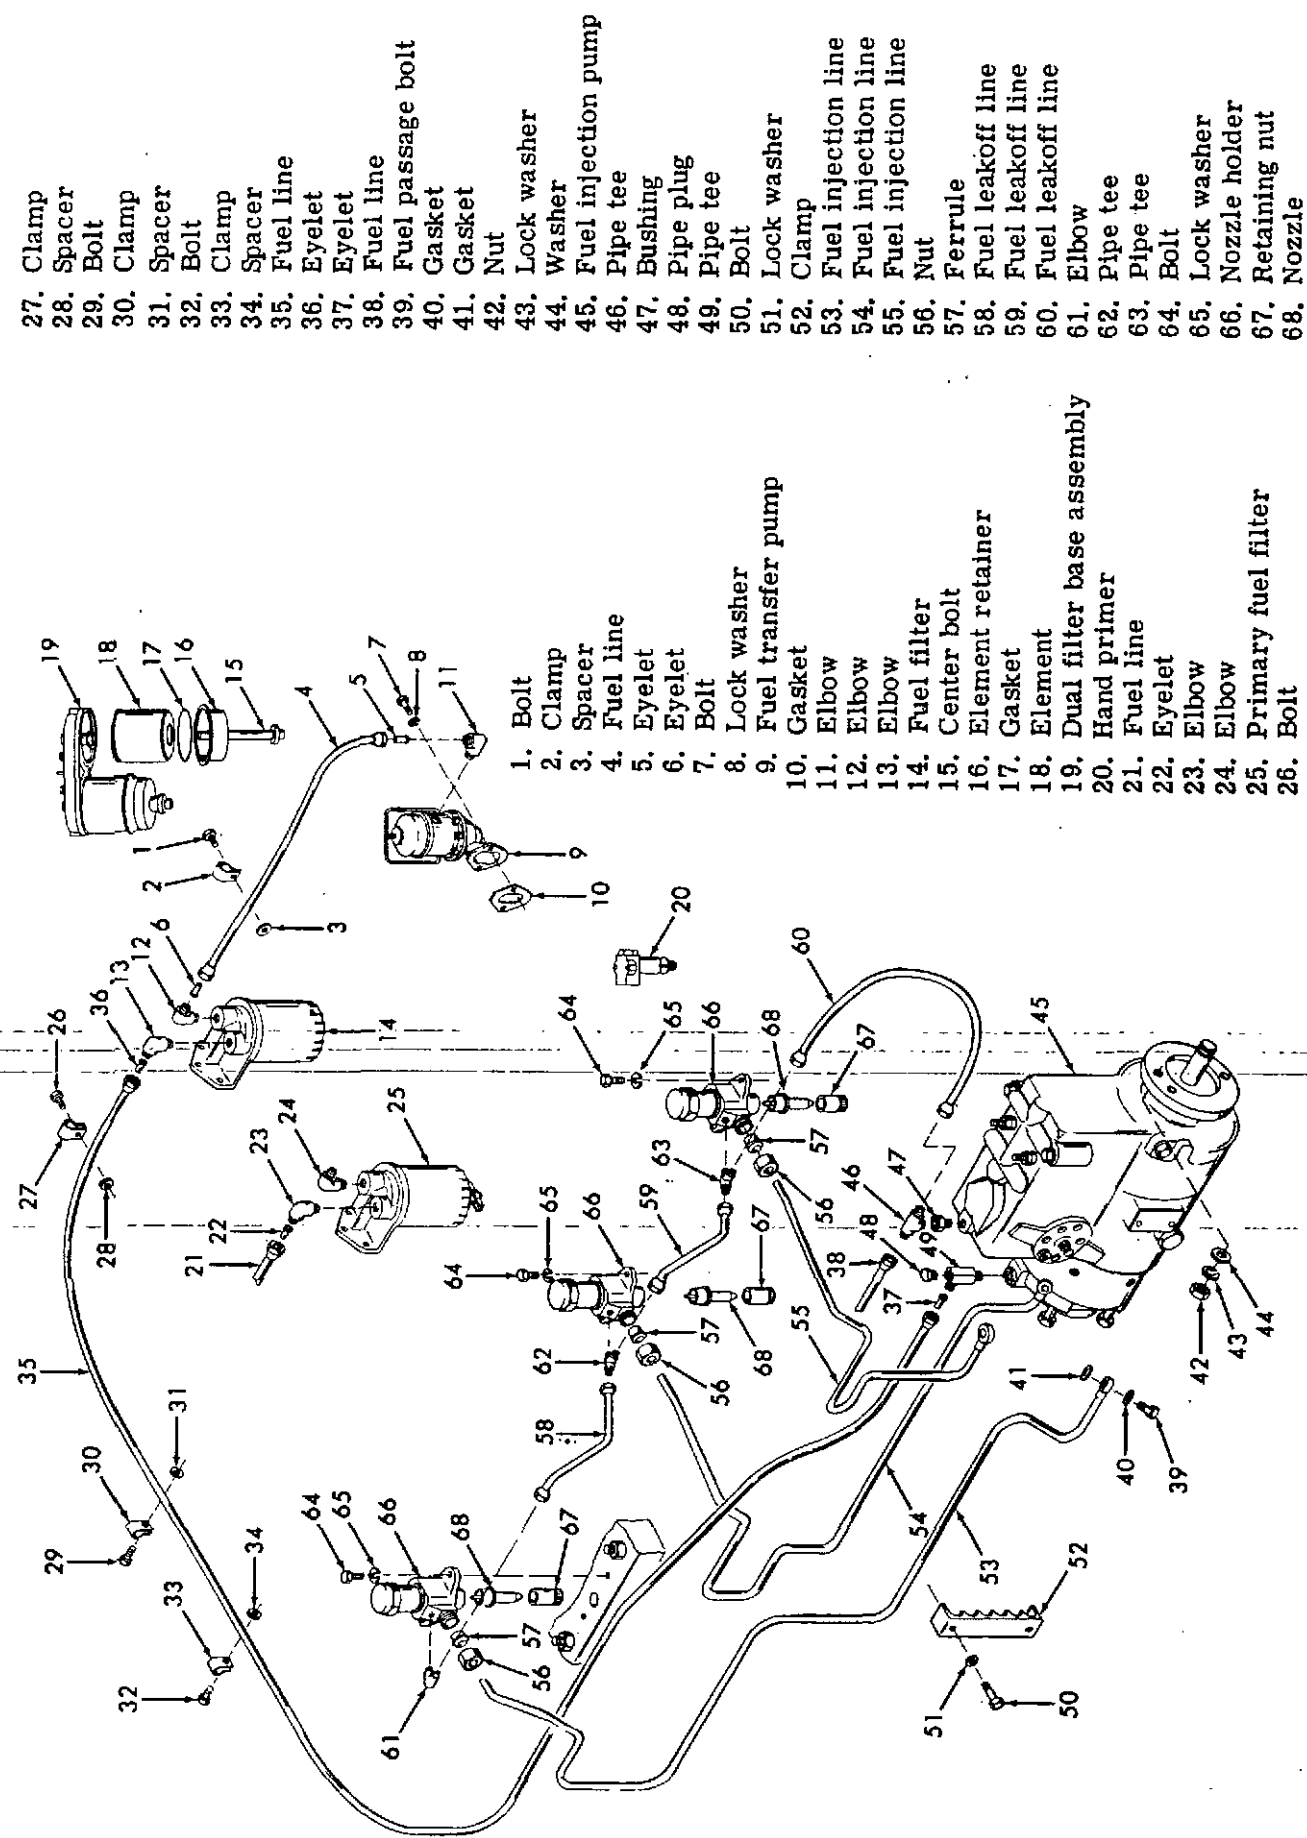

Figure 5-11. Fuel System, Exploded View
- (b) Disconnect and remove the fuel lines from the fuel tank at the pump. Be careful not to lose eyelets (5 and 6, figure 5-11) from fuel lines.
- (c) Remove the fuel transfer pump (9) and gasket (10) from cylinder block by removing two bolts (7) and lock washers (8).
(c) Disconnect and remove fuel line from the fuel pump. Take care not to lose eyelets (5 and 6, figure 5-11) from fuel line.
3. Remove the spin-on type fuel filter (1, figure 5-13) from the base assembly by turning off counterclockwise. Remove the fuel filter element (18, figure 5-11) (if used) by removing the center bolt (15) and element retainer (16).
2. Install the elbows (12 and 13, figure 5-11) in the base assembly.
3. Make sure the gasket of the spin-on filter rotates freely by hand in the filter, then coat it lightly with engine oil. Install filter until it makes contact with the base, then tighten one turn by hand. Install new elements (18) and gaskets (17) in the dual filter retainer; secure to base with center bolt (15) and retainer (16).
5. Disconnect and remove fuel line (35, figure 5-11). Disconnect the leakoff manifold line (60). Disconnect the fuel return line (38) from the pump to the supply tank.
7. Disconnect the fuel injection lines (53, 54, and 55) from the fuel injection pump by removing fuel passage bolts (39) and gaskets (40 and 41). After removing each fuel line, reinstall the bolts (39) to keep dirt from entering the pump.